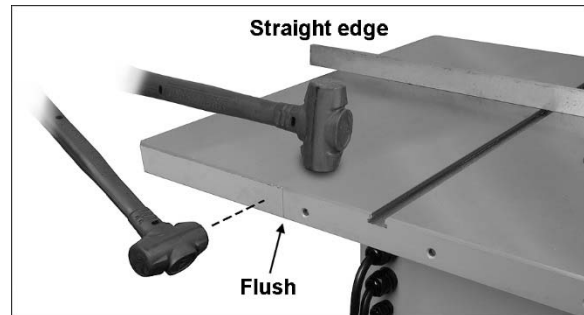

Figure 6-4: leveling extension wings, method 1
2. Attach an extension wing (B) to saw table. (Extension wings are identical). Use three screws, lock washers and flat washers (HP-1/2/3). Lightly snug screws with 17mm wrench or socket. *Do not fully tighten yet.*
4. The front edge of extension wings must be flush with front edge of saw table. If needed, tap front edge of wing with a rubber mallet to make flush. See Figure 6-4.
#### Method 1 (Figure 6-4):
3. Lay straight edge across saw table and extension wing, extending it out past edge of wing as shown in Figure 6-4.